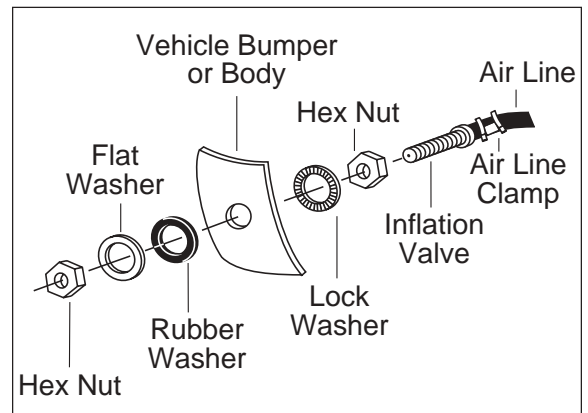

Figure 8
- j. Drill a $\frac{5}{16}$ " hole for inflation valve and mount as in illustration (Figure 8). Rubber washer is for outside weather seal.
- f. Drill $\frac{5}{16}$ " hole for inflating valves and mount as illustrated. Rubber washer is for outside weather seal (Figure 8).